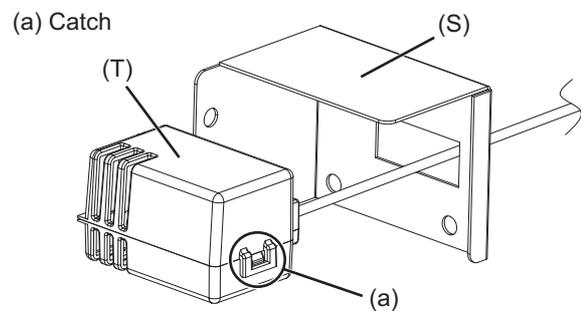

Fig. 23
- (2) Disengage the R32 sensor cover (T) from the R32 sensor plate (S). (Fig. 23)
- (3) Disengage the catch to open the R32 sensor cover (T).
- (4) Take the R32 sensor (U), then disconnect the lead wire.